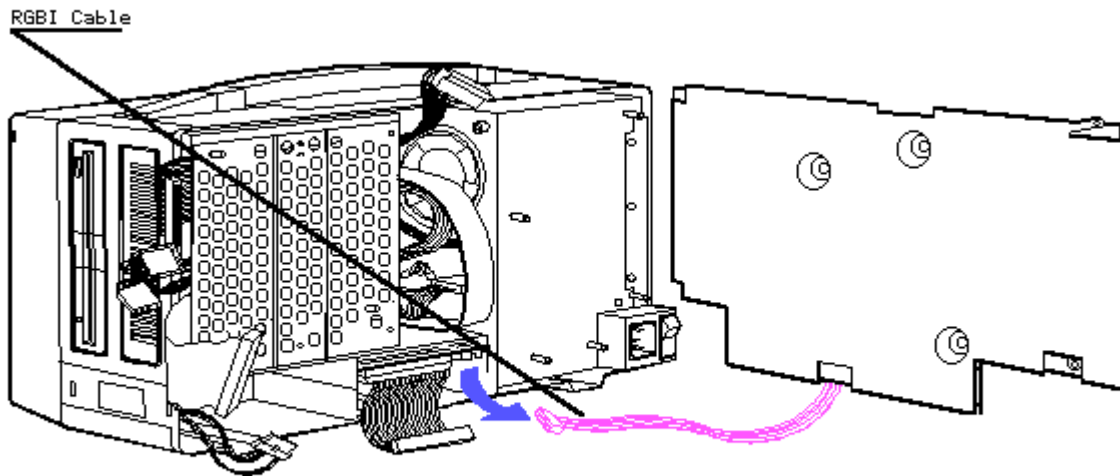

Figure 8-34. Disconnecting the RGBI Cable Assembly
13. Disconnect the RGBI cable assembly from the plasma display controller board (Figure 8-34).